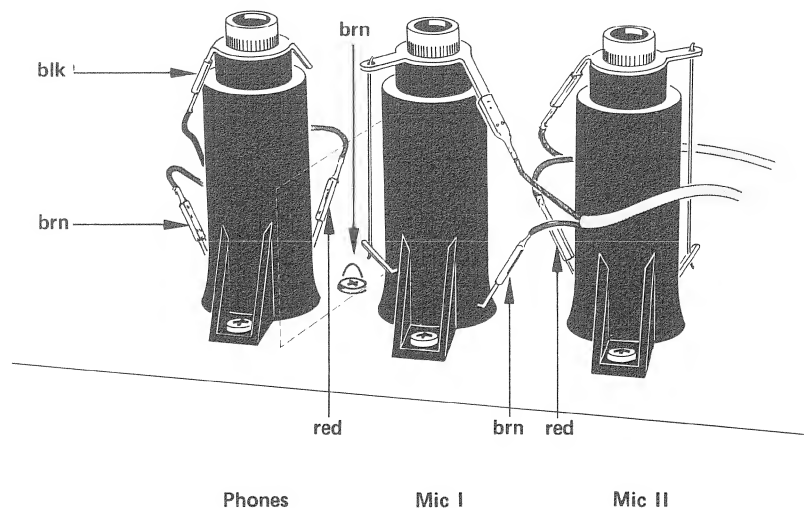

Fig. 3.13-18
- Pull connectors from Jacks. (fig. 3.13-18).